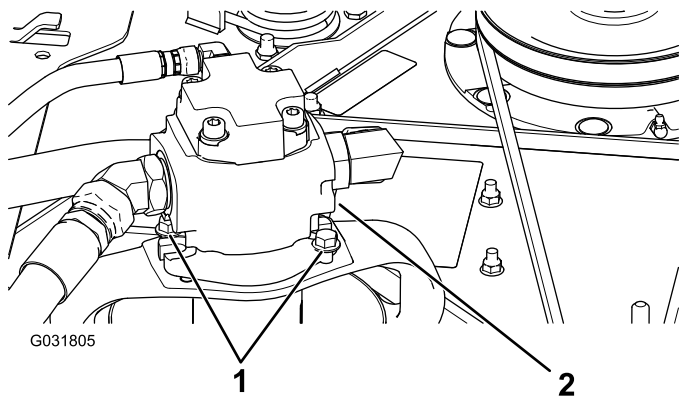

Figure 122
5. Remove the bolts securing the hydraulic motor to the mower deck (Figure 122).
3. Remove the bolts securing the hydraulic motor to the mower deck (Figure 122).